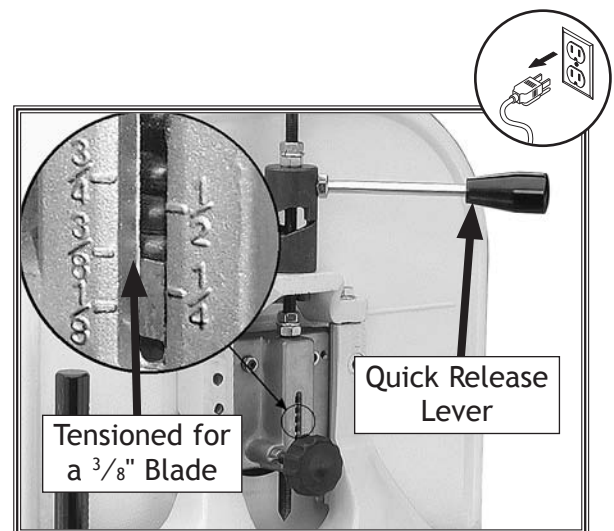

Figure 14. Tension applied for a $3/8$ " blade.
3. Move the blade tension quick release lever all the way right (as viewed from the rear of the machine) to apply tension to the blade (see **Figure 14**).
4. Use the tension knob on top of the bandsaw to bring the upper edge of the indicator block to the appropriate blade tension scale mark for the blade width (see **Figure 14**).